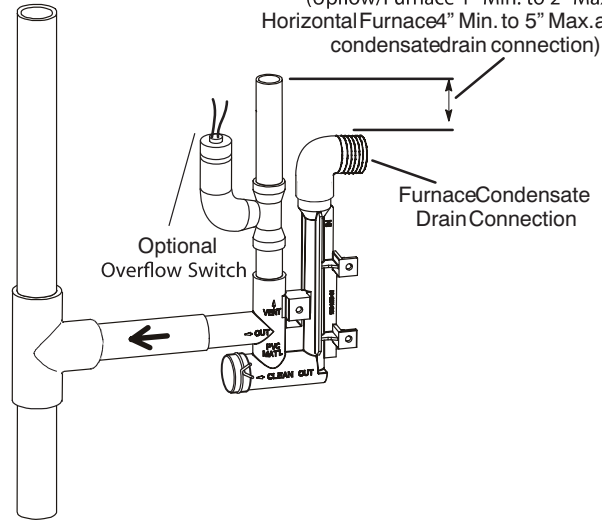
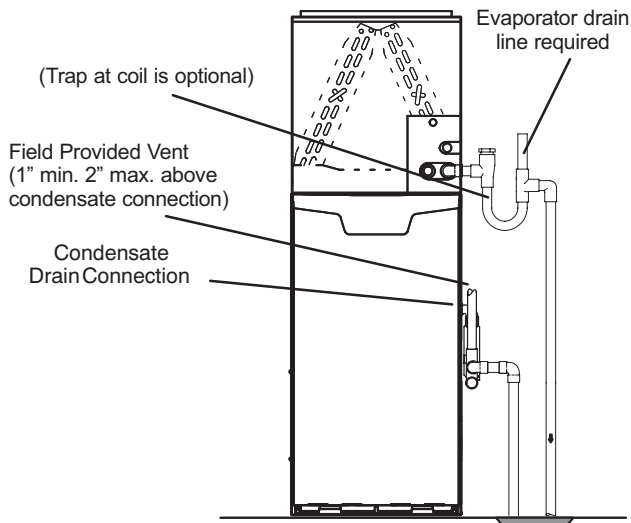
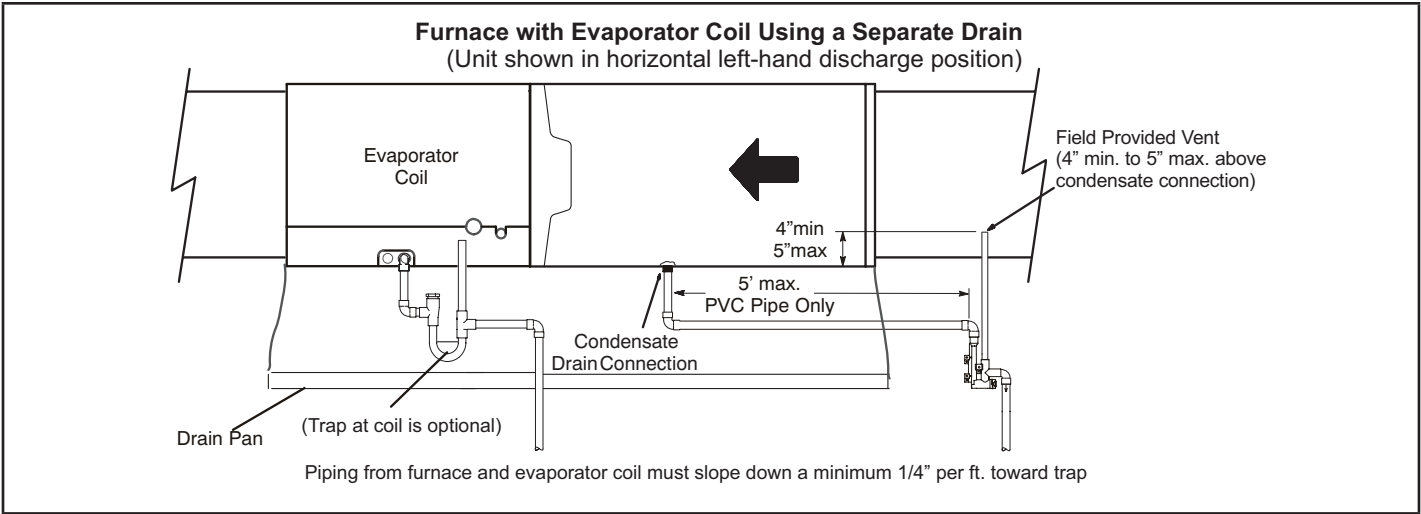
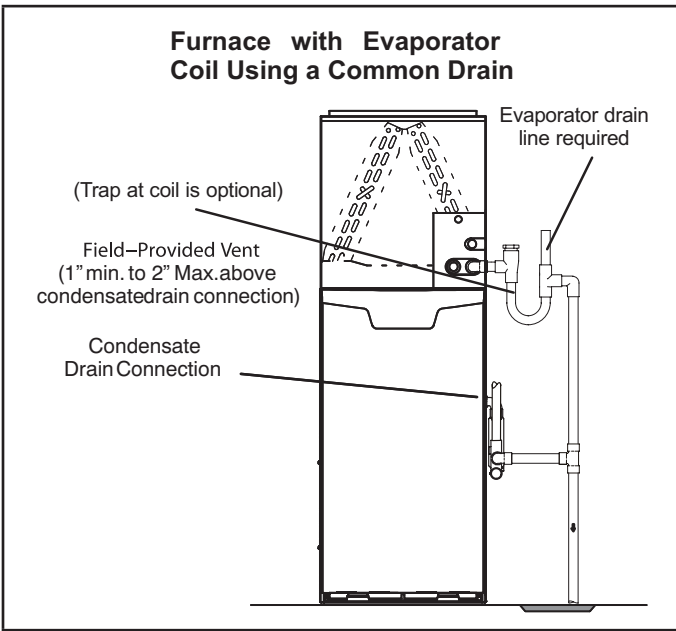

Figure 50
Figure 49
Figure 51
Figure 52
- 5 - Figure 49 and Figure 51 shows the furnace and evaporator coil using a separate drain. If necessary the condensate line from the furnace and evaporator coil can drain together. See Figure 50, Figure 52, and Figure 53. **Upflow furnace (Figure 52)** - In upflow furnace applications the field provided vent must be a minimum 1" to a maximum 2" length above the condensate drain outlet connection. Any length above 2" may result in a flooded heat exchanger if the combined primary drain line were to become restricted. **Horizontal furnace (Figure 53)** - In horizontal furnace applications the field provided vent must be a minimum 4" to a maximum 5" length above the condensate drain outlet connection. Any length above 5" may result in a flooded heat exchanger if the combined primary drain line were to become restricted.